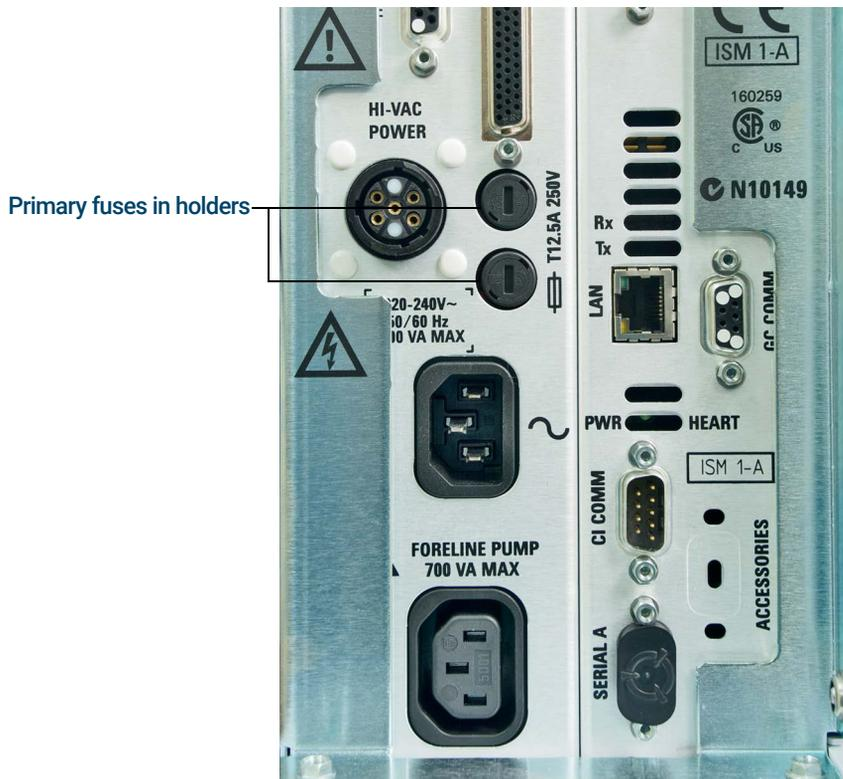

Figure 2. Primary fuses
- 2 Turn one of the fuse holders counterclockwise until it pops out. The fuse holders are spring loaded. (See Figure 2 on page 34.)